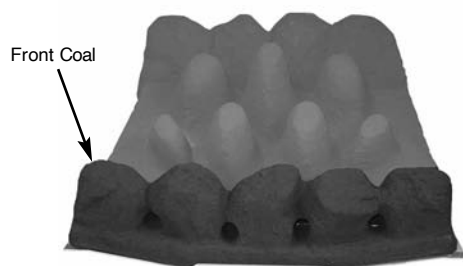

Fig. 19
3. Position the front coal on the front coal retainer, making sure that the back edge is pushed up against the front of the burner strip (Fig. 19).